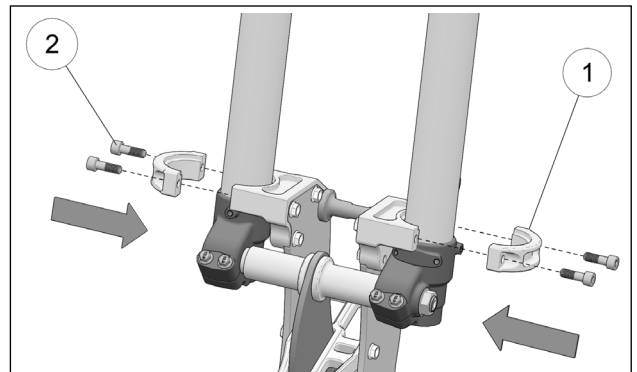

Figure 9
- Set the outer fork clamps (1) in their position at the bottom of the forks. The small machined diameter in the fork clamps is used as clearance for fork seals and so must be positioned up. Insert clamp assembly bolts (2); do not tighten at this point. See Figure 9.
- Tighten clamp bolts to 25 Nm [18 lb-ft] of torque. See Figure 9.